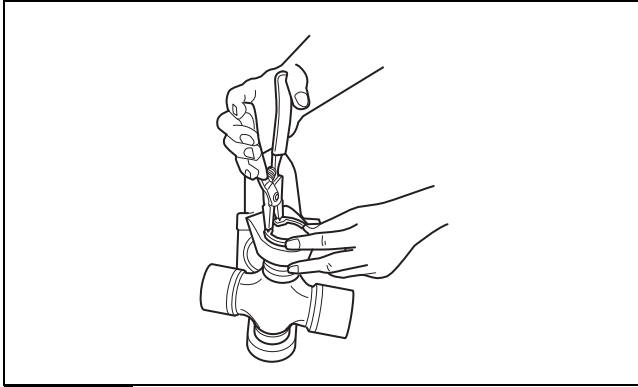

Figure 8.26
4. Use snap ring pliers to install the snap ring into the snap ring groove. Figure 8.26. Fully seat the snap ring.